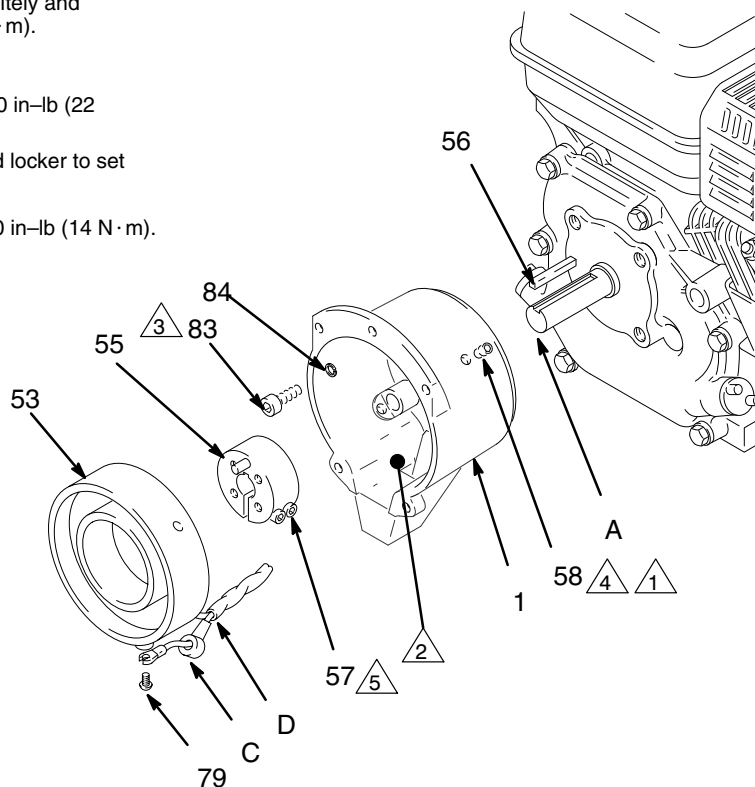

Fig. 21
1. Install the **clutch housing (1)**, capscrews (83) and lockwashers (84) on the engine. Use special alignment tool to position clutch housing on engine. Torque screws (83) to 200 in-lb (22 N·m).
2. Install the engine shaft **key (56)**. See Fig. 21.
4. Connect the wires of the harness (D) with the screws (79) in both places on the field (wires can be attached to either connection). Pull the plastic caps (C) up and snap them over the screws. Install the field in the clutch housing. Push the wire harness through the slot in the clutch housing. Align the setscrew holes in the field and the clutch housing (1). Hand tighten the setscrews (58) oppositely and evenly. See Fig. 21.
- 4 Apply low strength thread locker to set screws (58).